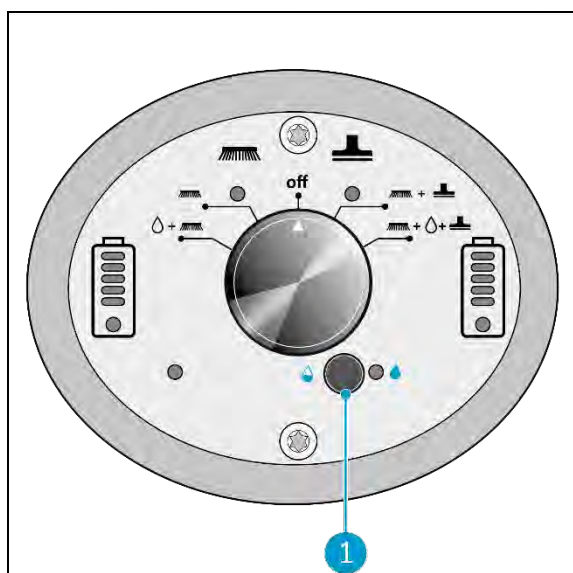

Figure 25
1. Turn on the ECO mode by pushing the ECO button (Figure 25, pos. 1).